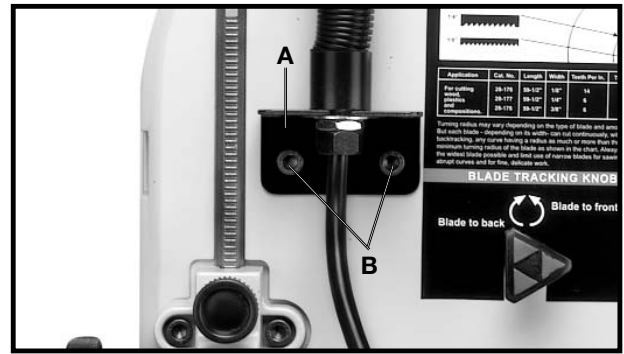

Fig. 13
1. Fasten the lamp bracket (A) Fig. 13, to the top cover of the machine, using two M6x1x12mm cap head screws (B) and 1/4 in. lockwashers as shown.